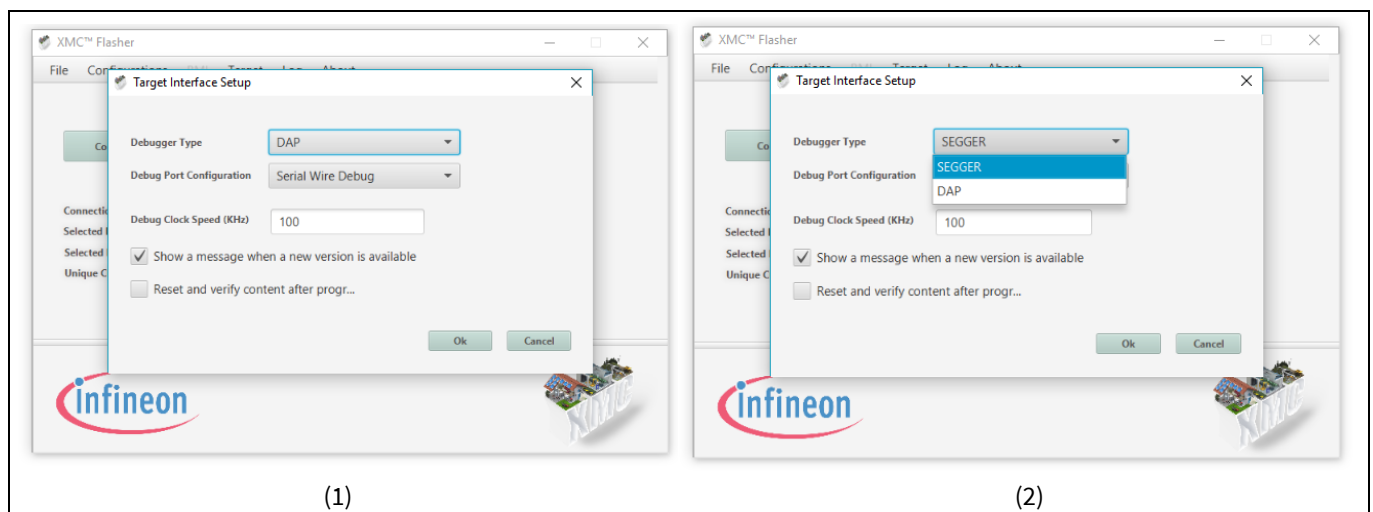

Figure 10 Change debugger type
Note: Please ensure that SEGGER J-Link drivers are installed before using the XMC™ Flasher tool. Otherwise, the default debugger type under XMC™ Flasher Target Interface Setup will be set to **DAP**, as shown in Figure 10 (1). Once installed, the user must change the debugger type to **SEGGER**, as shown in Figure 10 (2).